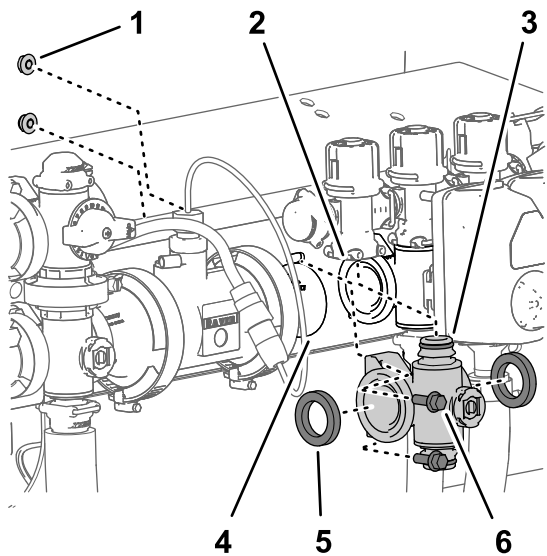

Figure 108
4. For left or right section-valve manifolds, remove the 2 flange-head bolts (1/4 x 3/4 inch) and 2 flange locknuts (1/4 inch) that secure the section-valve manifold to the valve support (Figure 108).
5. Move the section-valve manifold and gaskets down to clear the section-bypass valve and then away from the machine (Figure 108).